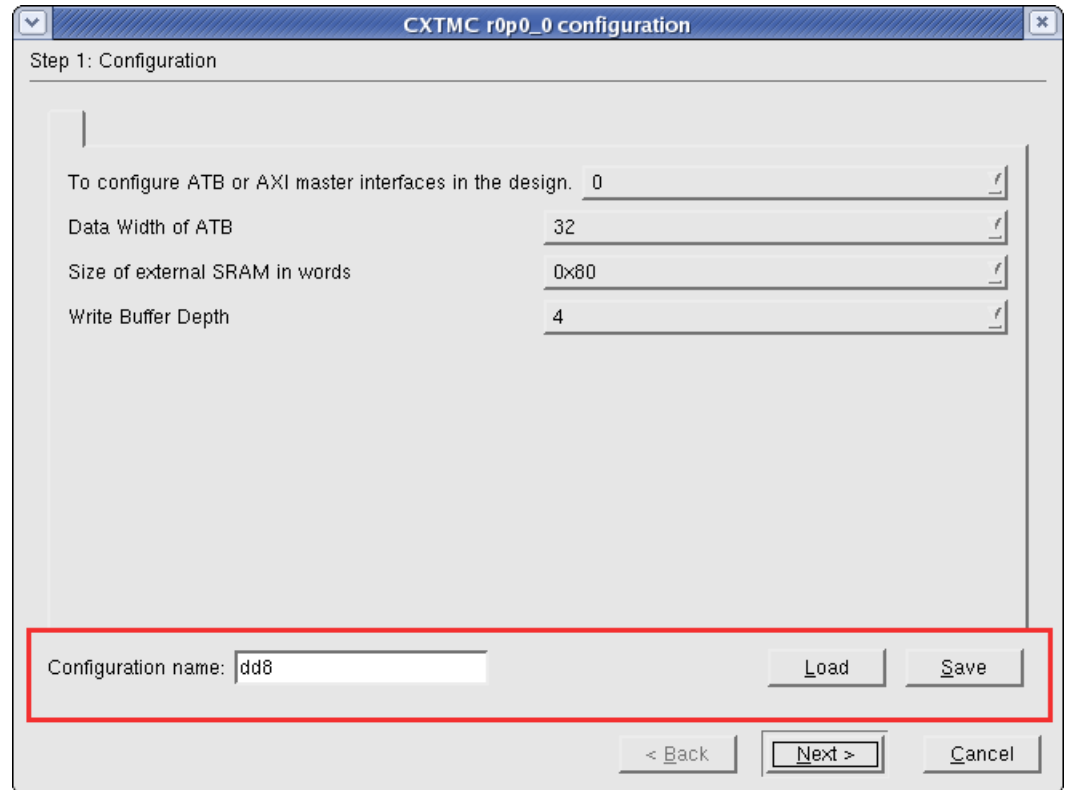

Figure 4-5 Configuration file name for AMBA 4 batch mode
3. If needed, update the name for the XML configuration in the **Configuration name** field. See Figure 4-5.